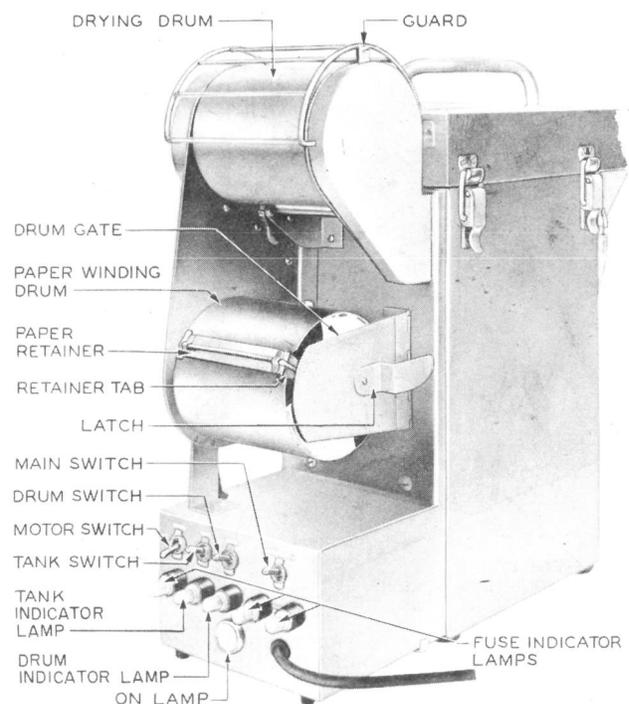

Fig. 13 — Photo Processor — End View
6.09 Move the main switch to its ON (upper) position and check that the ON lamp lights (Fig. 13). Move the tank switch to its ON (upper) position. If the tank indicator lamp lights at this time, the temperature of the water used to fill the tank, as covered in 6.06, was probably excessive. In this case, refill the tank with cooler water and observe that the lamp does not light upon operation of the switch. When, after an interval following operation of the switch, the tank indicator lamp lights, proceed with the processing of the paper, as covered in Part 7.
7.03 Make sure that the paper retainer on the winding drum is in an accessible position as shown in Fig. 13. If necessary, run the motor by operating the motor switch to bring the drum to the required position. Swing the drum gate latch upward and swing the gate away from the end of the drum. Place a finger behind the paper retainer tab and remove the retainer from the drum. Swing the guard away from the drying drum.